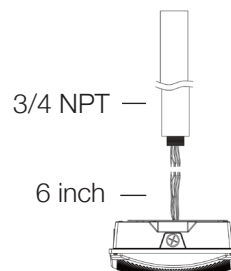

Fig. 3.4
4. Hang the luminaire by the plate and connect the wiring of the luminaire to the local power supply (Fig 3.4). Please take note that the size of the knockout on the back plate is  $\frac{3}{4}$  NPT. The power and dimming wires provided are approximately 6 inches. Since the wires are set in silicone, the length of the wires cannot be extended.